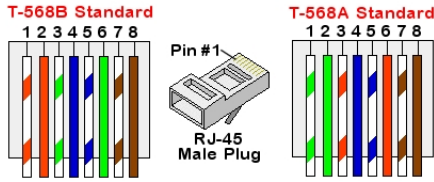

Figure 16: Standard cable wiring
- c. Insert the eight wires into an RJ45 connector, as described in *Figure 16*
7. For the switch/router side, use a pre-terminated cable or use a crimper to prepare an RJ45 communication connector: Insert the eight wires into the RJ45 connector in the same order as above (*Figure 16*).